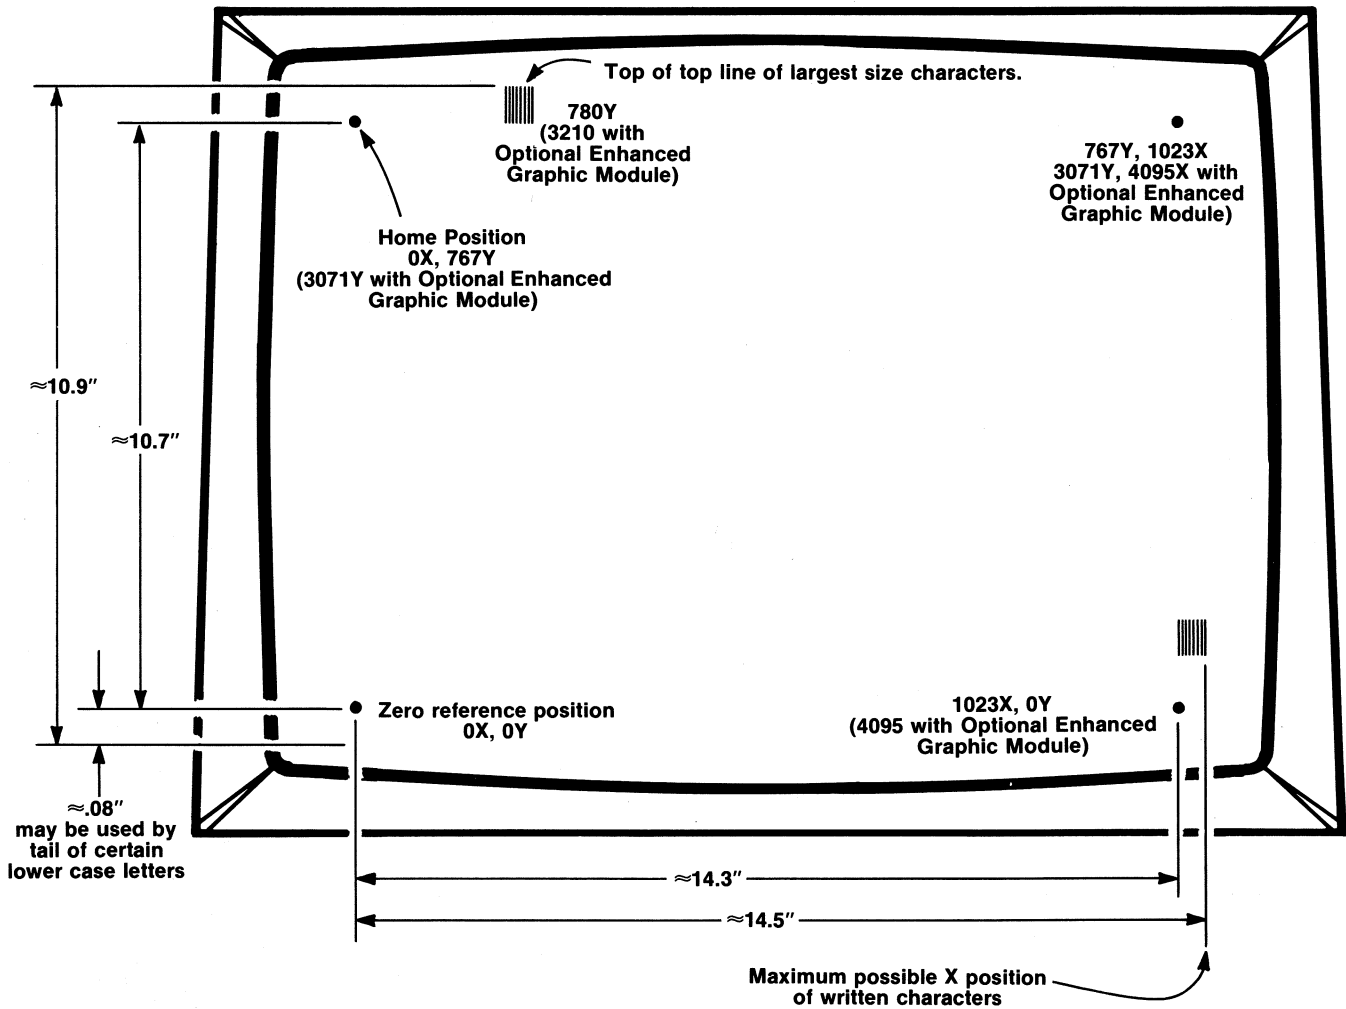

Fig. 3-1. Display format.
**Display Area.** Nominally 15 inches horizontal by 11 inches vertical. Fig. 3-1 illustrates display specifications.
**Address.** An address is any point within the 1024Y by 1024X capability of the Terminal's beam-positioning registers. In the standard Terminal, Y addresses higher than 779Y fall outside the screen's specified display area. See Fig. 3-1 for display format.
**Vector Write-Thru "Refresh" Display.** With Write-Thru enabled, the maximum number of vectors possible is limited by (1) the baud at which the minicomputer and interface operate, and (2) a Terminal hardware limitation of 10,000 centimeters of vectors drawn per second. To provide a flicker-free display, the data must be refreshed at least 30 times a second. See the following for examples of Write-Thru graphics capability.
**Viewable Address.** Any point within the 780Y by 1024X grid quality display area can be seen (see Fig. 3-1.)